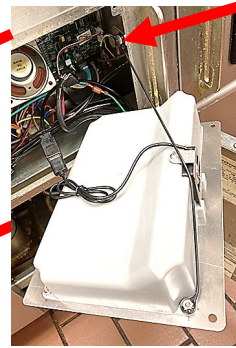

Figure 27
- With the replacement controller face down resting in the control box, **reattach the lanyard tether FIRST**. Failure to reinstall the lanyard may result in damage to the SIB board connectors when connecting or disconnecting cables (see Figure 27).